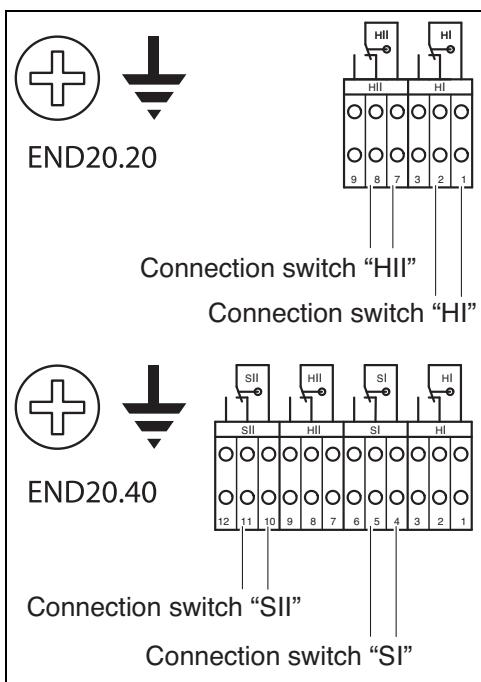

Fig. 36
- Connect the cable to the connection strip as follows (see also Fig. 36):